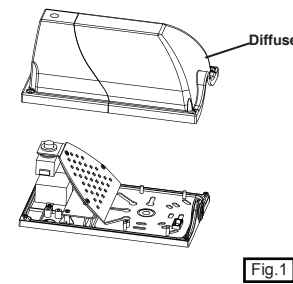

Fig.1
1. Remove the lamp cover fixing screws and keep them in a safe place.(Fig. 1)